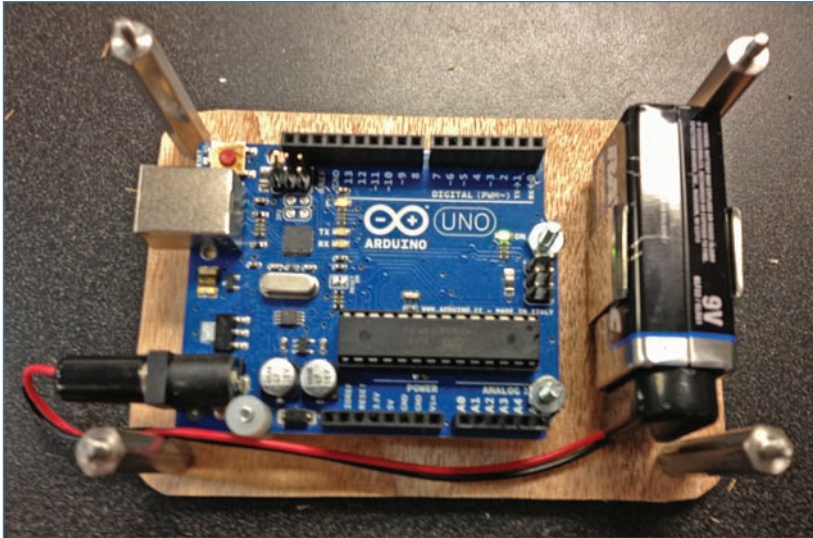

FIGURE 10.12 Add the Arduino, battery pack, and standoffs.
3. Attach the Arduino to the bottom plate, and add the battery clip using the 1/4" #4 screws. You can also attach the aluminum standoffs using some additional 1/4" screws. The bottom assembly should look like Figure 10.12.